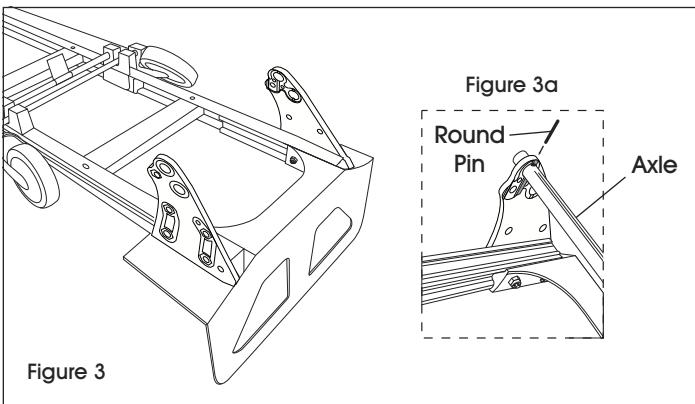

Figure 3
1. Lay hand truck down on front so axle supports face upwards. (See Figure 3)